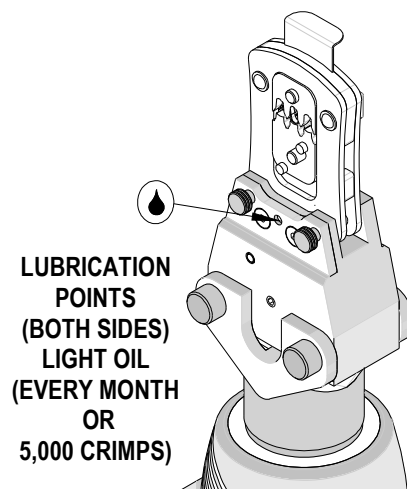

Figure 2-2
4. Make certain all pins, pivot points and bearing surfaces in the tool head are protected with a thin coat of high quality machine oil. Do not oil excessively. Use light oil, such as SAE 30 weight automotive oil, every 5,000 crimps or monthly, will significantly enhance the tool life and ensure a stable calibration. See Figure 2-2 for lubrication points.